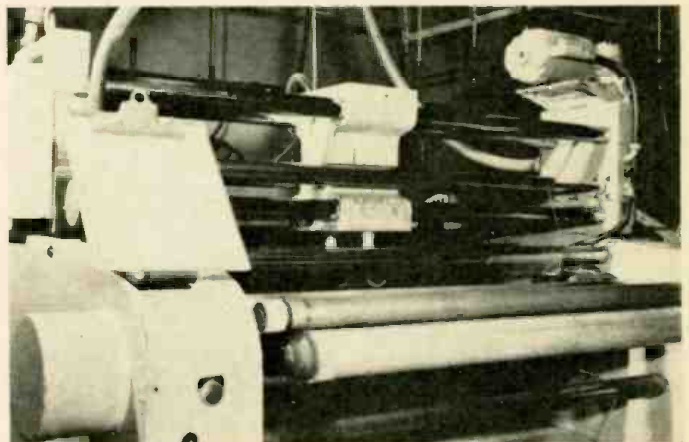

Fig. 4. Traversing thickness gage used in plastic production.
The use of thickness controls is not restricted to steel fabrication as evidenced by the photograph of Fig. 4 which shows an installation in the processing of Saran, a very thin plastic. Here the source and detector assembly travel back and forth over the width of the plastic sheet as the sheet passes between them.
Fig. 4. Substitution of an air-spring for mechanical-suspension stiffness in the acoustic-suspension system, shown in (B), in order to reduce speaker distortion.
eliminating suspension non-linearity, the acoustic suspension system¹ employed a new approach to providing cone restoring force. As shown in Fig. 4, the volume of air enclosed by the cabinet walls is used as an air spring, substituting for the mechanical suspensions as a source of elastic restoring force. The mechanical suspensions cannot be dispensed with because they must still perform their centering function, but they can be made so limp that the problem of suspension non-linearity is eliminated as a practical consideration.